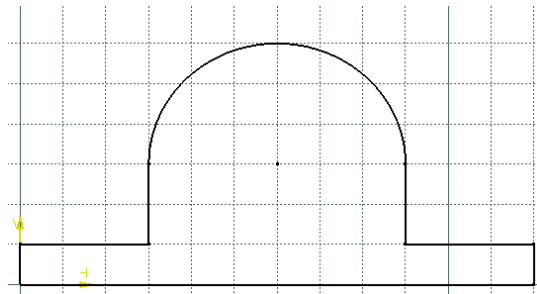

Figure 1-49 Sketch after drawing the outer loop
- b. Draw the sketch of the model using the **Profile** and the **Circle** tool, refer to Figures 1-49 and 1-50.
The sketch, after drawing the outer loop, is shown in Figure 1-49.